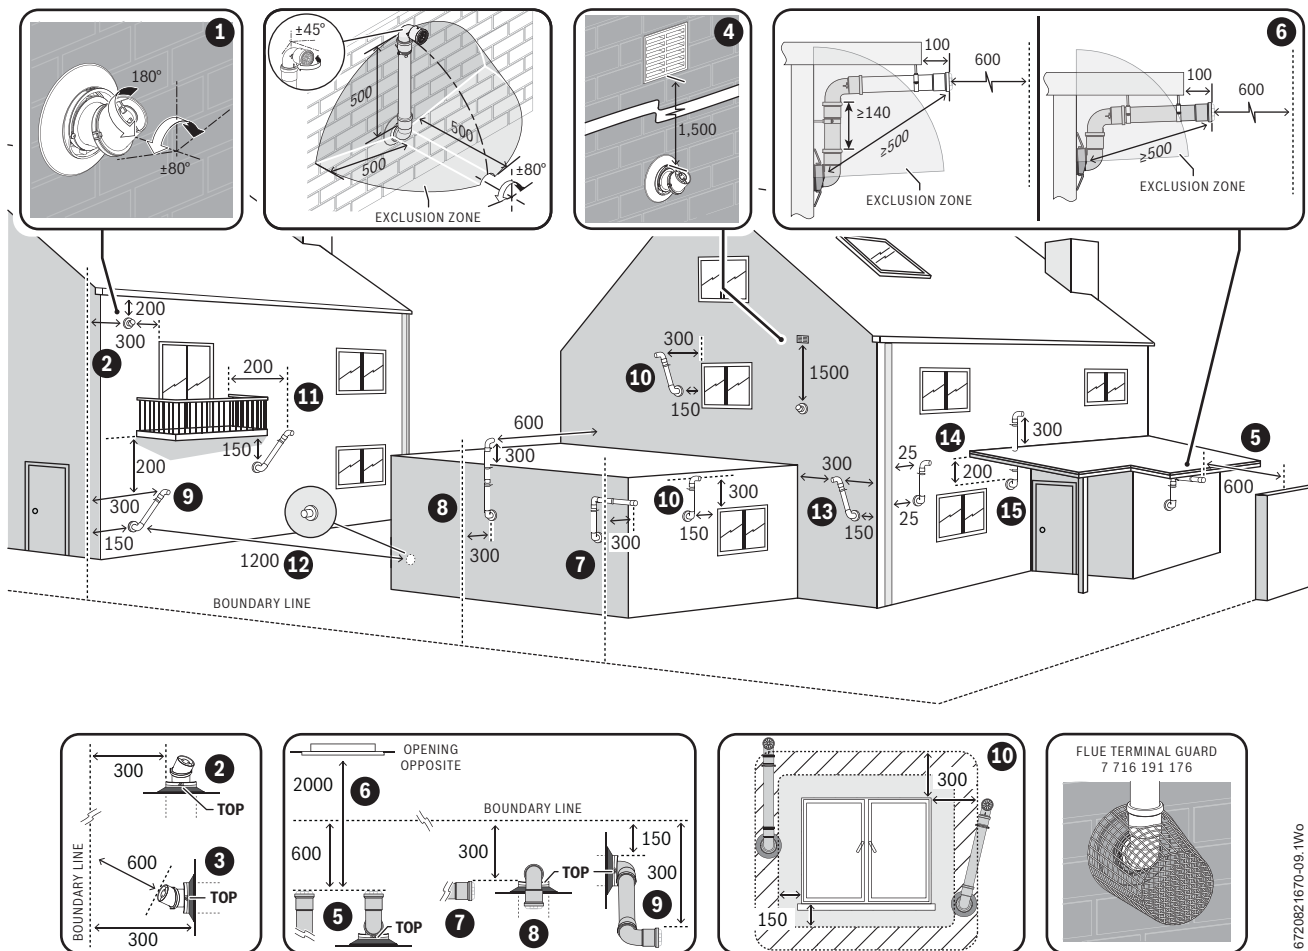

Fig. 23 Plume re-direct and plume management terminal positions
- ▶ Refer to “Horizontal flue terminal positions” for all concentric flue terminal positions unless the flue position is specified in figure 23 for “Plume re-direct and plume management terminal positions”.
**Key to Figure 23 - Plume re-direct terminal positions:**
**Key to Figure 23 - Plume management terminal positions:**